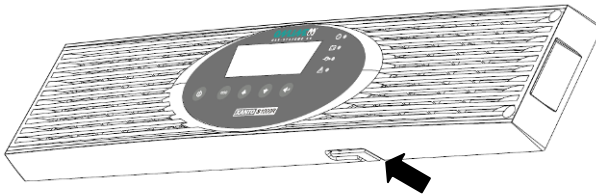

Figure 6: Removing the cable ejection from the battery module
2. Remove the cable ejection on the lower side of the front cover of the UPS system (see Figure 6).